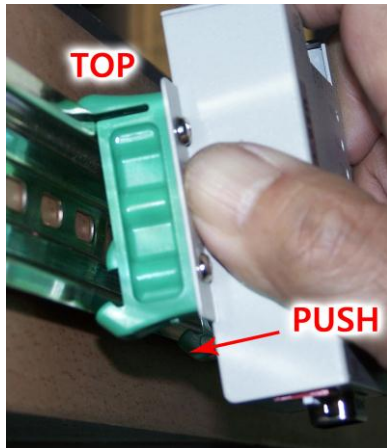

Fig.3
4. Repeat steps (1) to (4) to mount the second DIN rail clip on the second mounting bracket on the device
5. Clip the top side of the mounting device on the DIN rail first (Fig.3)
6. Push the bottom of the device and snap it onto the DIN rail (Fig.3)